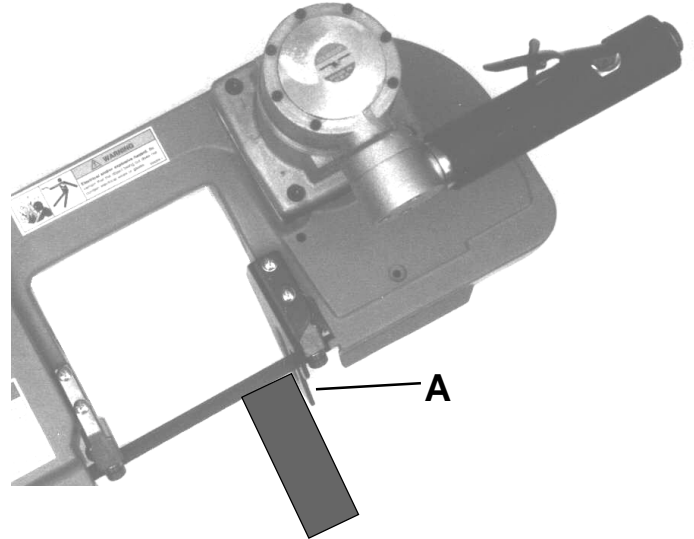

Fig. 5
2. Hold the saw as shown in Fig. 5, with the work stop (A) contacting the work and blade teeth clear of the work.